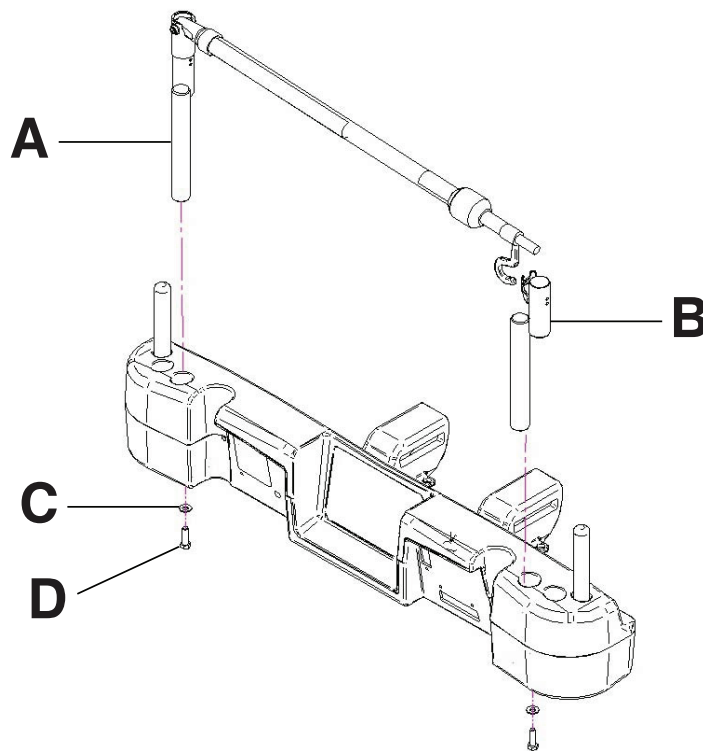

Figure 87: Single two stage IV pole (Left side shown)
1. Using a 3/8 in. drive ratchet and a 1/2 in. socket, install one washer (C) and one bolt (D) to secure the IV pole to the socket at the head end of the product (A) (Figure 87 on page 95).
2. Using a 3/8 in. drive ratchet and a 1/2 in. socket, install one washer (C) and one bolt (D) to secure the IV pole support into the socket at the head end of the product (B) (Figure 87 on page 95).